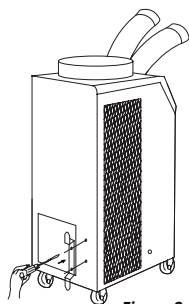

Figure 9
3. Use screws (enclosed inside of accessory box with cord holder) to install the cord holder on the air conditioner as shown in Figure 9.